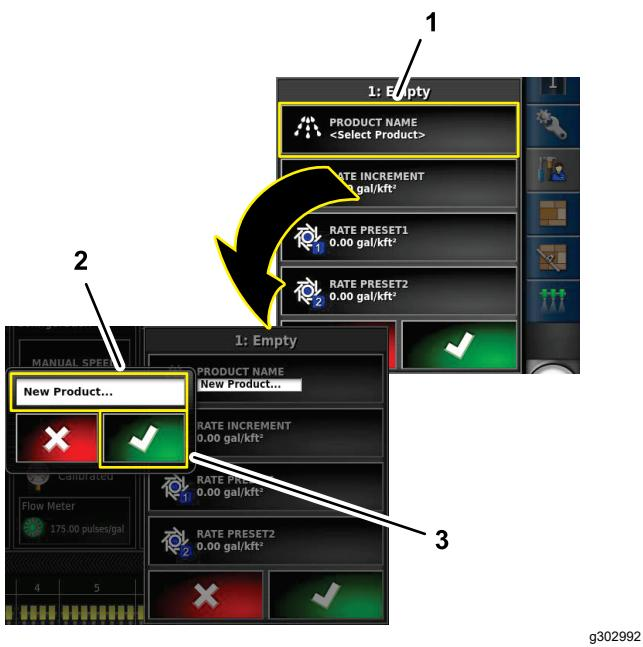

Figure 116
4. In the product configuration window, press the PRODUCT NAME icon (Figure 116).
5. Press the NEW PRODUCT... icon, and press the confirm icon (Figure 116).